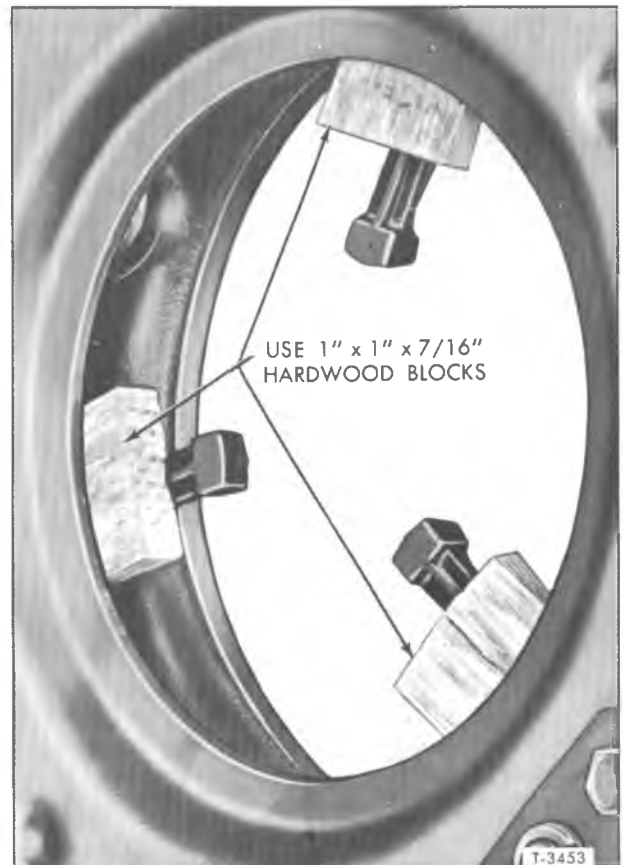

Figure 1—Use of Blocks Between Release Levers and Cover (Long or Borg and Beck)
**IMPORTANT:** To facilitate removal of the Long or Borg and Beck clutch cover assemblies, install hardwood wedges between the release levers and cover as shown in figures 1 and 3.